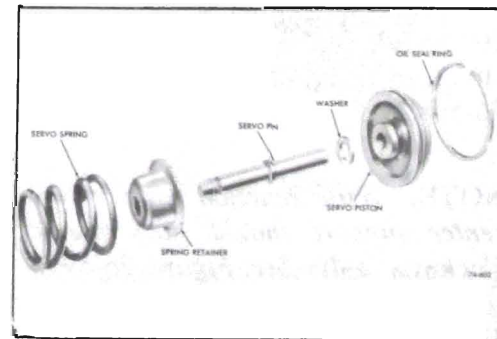

Figure 76-602
1. Inspect servo pin for scores and cracks. See Figure 76-602.